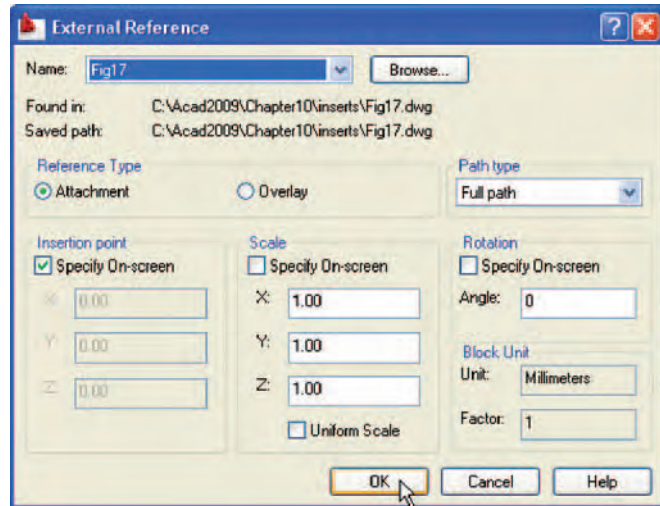

Fig. 10.15 The **External Reference** dialog
4. Click its **Attach** button and select **Attach DWG...** from the pop-up list which appears when a *left-click* is held on the button. Select the drawing of a spindle (**Fig17.dwg**) from the **Select Reference file** dialog which appears followed by a *click* on the dialog's **Open** button. This brings up the **External Reference** dialog (Fig. 10.15) showing **Fig17** in its **Name** field. *Click* the dialog's **OK** button.